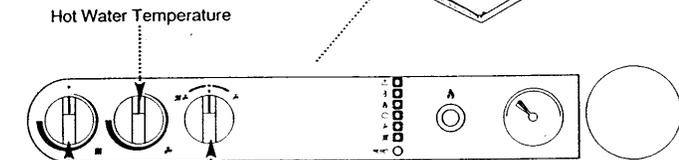

Fig. 36
2. Set the hot water and central heating temperature controls to maximum and the selector switch to the OFF position (Fig. 36).
4. Turn the selector switch to the Domestic Hot Water position (OFF). The electrical supply ON light (ON) will illuminate (Fig. 36).
8. Turn the selector switch to the Central Heating and Domestic Hot Water position (OFF)(Fig. 36).